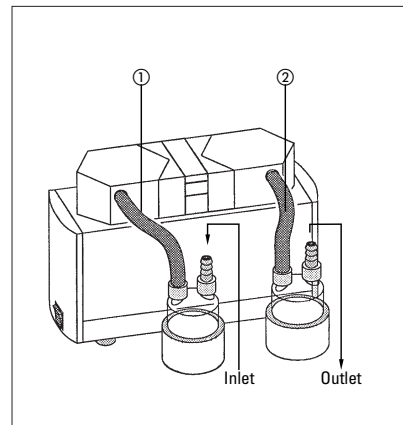

Figure 7: Tubing system SR... (two-headed pumps)
- ① Slide in the holders for the Separators into the Baseplate mounting slot.
- ② Fix the holders by tighten the screws in the bottom of them.
- ③ Place the glass Separators into the holders.
- ④ Tubing of two-headed pumps: see figure 7. For tubing of single-headed pumps and pumps with aluminum heads (pump types including an „A” in the type code), please contact KNF. Choose tube material which is resistant against the media to be used.